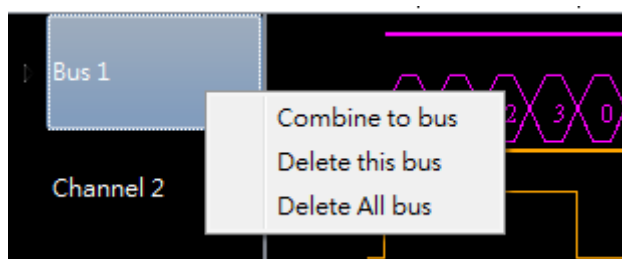

Figure 4-12 Bus Pop-up Menu
1. Right-click on the bus to be removed to display the pop-up menu, as shown in Figure 4-12.